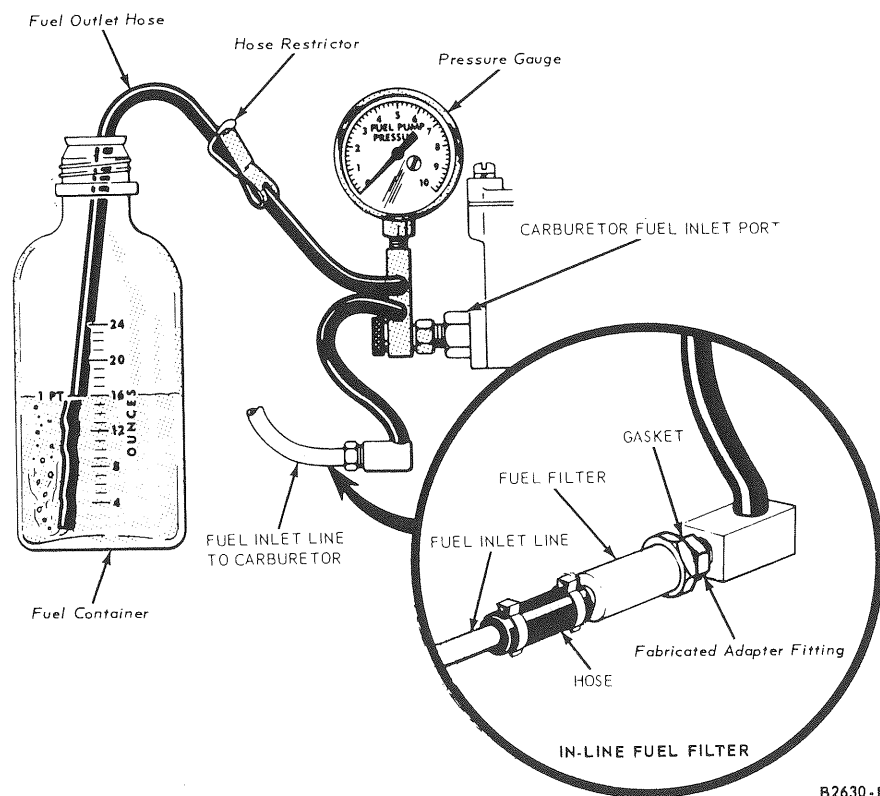

FIG. 3 Typical Fuel Pump Pressure and Capacity Test Equipment
2. Connect a pressure gauge, a restrictor and a flexible hose (Figure 3) between the fuel filter and the carburetor. **Inside diameter of smallest passage in test flow circuit must not be smaller than .220.**
3. Position the flexible fuel outlet hose and the restrictor so the fuel can be discharged into a suitable graduated container (Figure 3).
2. Open the hose restrictor and expel the fuel into the container (Figure 3), while observing the time required to expel one pint. Close the restrictor. One pint or more of fuel should be expelled within the specified time limit.